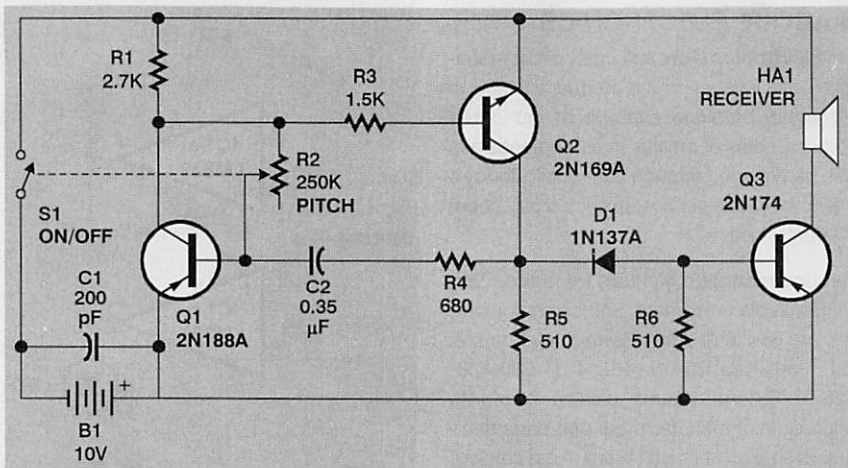

FIG. 5—THIS CLASSIC BELL LABS artificial larynx dates from the 1950s. The device labeled HA1 is the telephone receiver.
**Q** In response to the letter from E. C. in your February 1998 "Q&A," I am enclosing a circuit from the *Sourcebook of Electronic Circuits*, by John Markus, 1968 (see Fig. 5). I do not fully understand this circuit. Where does the sound come out? Why the odd (10 volts) battery voltage?